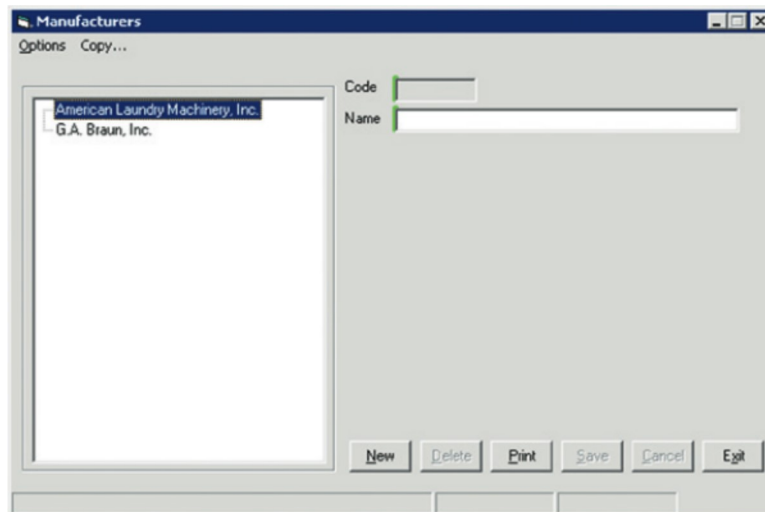
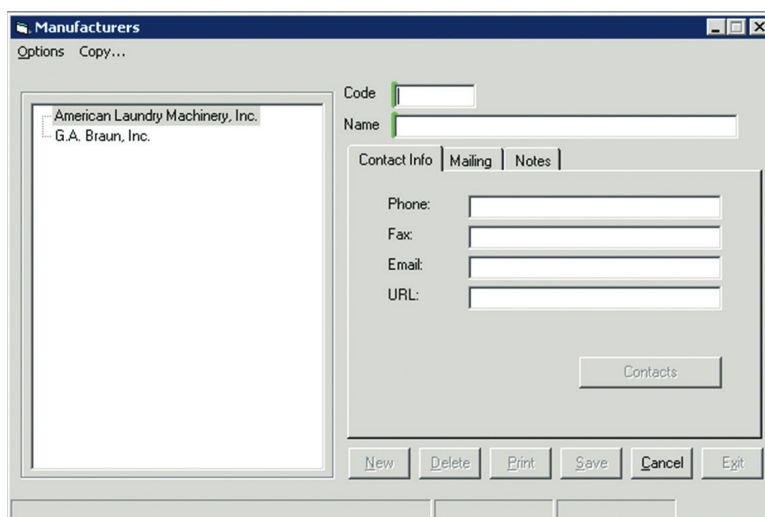

Figure 4. Manufactures dialog.
Figure 5. Manufactures New Manufacturer.
PMTracker can help you manage information about the manufacturers of your equipment and parts. You can add and modify manufacturer information using the **Manufacturers** dialog (see Figure 4). To access the dialog, click **A Data Entry Task>Manufactures** from *PMTracker EasyPath*.
2. Click the **New** button (see Figure 4) to open a blank form (see Figure 5).